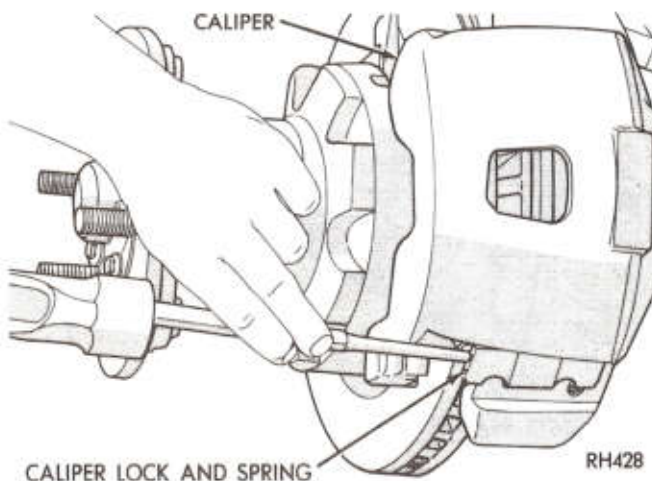
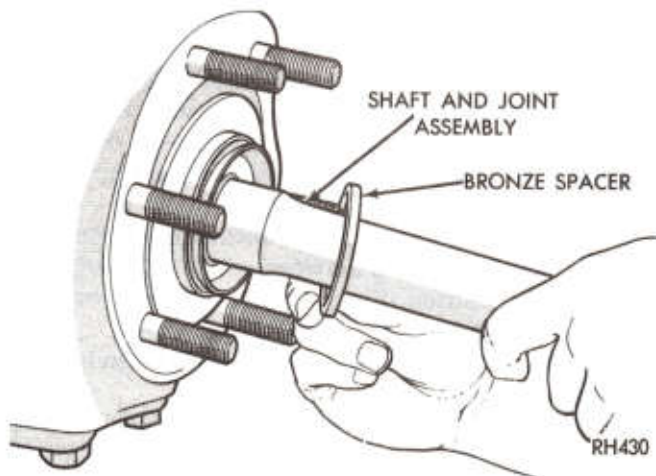
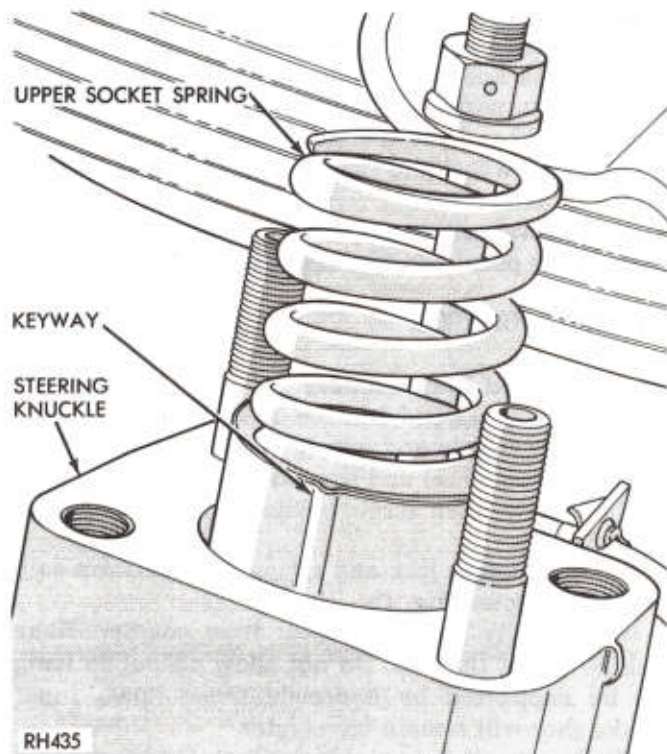

Fig. 5—Installing Caliper Lock and Spring
Fig. 7—Removing or Installing Shaft and Joint Assembly
Fig. 15—Proper Alignment of Keyway on Sleeve to Steering Knuckle
(17) Install new gasket on hub. Install drive flange, lockwashers and nuts. Tighten to 30 to 40 ft. lbs. Using Tool C-4020 install snap ring. Install hub cap, or install locking hub if so equipped. See Dualmatic hub—assembly.
(18) Carefully position caliper onto adapter. Position adapter lock and spring between caliper and adapter and tap into position (Fig. 5). Install allen screw and tighten to 12 to 18 ft. lbs. (16-24 N·m).
(19) Install wheel and tire assembly. Tighten nuts to 75 ft. lbs. (102 N·m).
(20) Lubricate at all fittings. Remove jack stands, lower vehicle, remove block from brake pedal and test vehicle operation.
(12) Remove spindle from knuckle. Slide inner and outer axle shaft complete with bronze spacer, seal and slinger from axle (Fig. 7).
(1) Slide axle shaft into position. Position bronze spacer on axle shaft with chamfer facing toward universal joint (Fig. 7).
(2) Install spindle, brake adapter and brake splash shield. Install washers and nuts and tighten to 50 to 70 ft. lbs. (68 to 95 N·m).
(3) Position inner brake shoe on adapter.
(4) Carefully install hub and rotor assembly onto spindle. Install outer bearing and inner lock nut. Using Tool DD-1241-JD and Tool C-3952-A, tighten to 50 ft. lbs. to seat bearings, back off lock nut and retighten to 30 to 40 ft. lbs. (88 N·m) while rotating hub and rotor. Back nut off 135° to 150°. Assemble lock ring and outer lock nut. Tighten lock nut to 65 ft. lbs. (88 N·m) minimum. Bend one tang of lock ring over inner lock nut and one tang of lock ring over outer lock nut. Final bearing end play to be .001 to .010 inch (.025 to .254mm).
(5) Install new gasket on hub. Install drive flange, lock washers and nuts. Tighten to 30 to 40 ft. lbs. (41 to 54 N·m). Using Tool C-4020 install snap ring. Install hub cap, or install locking hub if so equipped. See Dualmatic hub—assembly.
(6) Carefully position caliper onto adapter. Position adapter lock and spring between caliper and adapter and tap into position (Fig. 5). Install allen screw and tighten to 12 to 18 ft. lbs. (16 to 24 N·m).
(7) Install wheel and tire assembly. Tighten nuts to 75 ft. lbs. (102 N·m).
(8) Remove jack stands, lower vehicle, remove block from brake pedal and test vehicle operation.
(13) Remove cotter key and nut from tie rod. Using Tool C-3894-A, disconnect tie rod from steering knuckle. **Left side only.** Remove cotter key and nut from drag link. Using Tool C-4150, disconnect drag link from steering knuckle arm.
(14) Remove nuts and upper knuckle cap (left side steering knuckle arm). Discard gasket. Remove spring and upper socket sleeve.
(15) Remove capscrews from lower knuckle cap. Work cap free from knuckle and housing.
(16) To remove knuckle from housing, swing out at the bottom, then lift up and off upper socket pin.
(3) Using Tool D-192 and torque wrench Tool DD-994 install upper socket pin and tighten to 500 to 600 ft. lbs. (668 to 813 N·m). Install seal over socket pin.
(4) Position steering knuckle over socket pin. Fill lower socket cavity with **MOPAR** Multi-Mileage Lubricant Part Number 4318062 or equivalent. Work lower knuckle cap into place on knuckle and housing. Install capscrews and tighten to 70 to 90 ft. lbs. (95 to 122 N·m).
(5) Liberally lubricate upper socket pin with **MOPAR** Multi-Mileage Lubricant Part Number 4318062 or equivalent. Align upper socket sleeve in keyway of steering knuckle (Fig. 15) and slide into position.
(6) Install new gasket over upper steering knuckle studs. Position spring over sleeve. Install cap (left side steering knuckle arm). Install nuts and tighten to 70 to 90 ft. lbs. (95 to 122 N·m).
(8) Connect tie rod to steering knuckle and install nut. Tighten to 45 ft. lbs. (61 N·m). Install cotter key.
(9) Slide axle shaft into position. Position bronze spacer on axle shaft with chamfer facing toward universal joint (Fig. 7).
(10) Install spindle, brake adapter and brake splash shield. Install washers and nuts and tighten to 50 to 70 ft. lbs. (68 to 95 N·m).
(11) Position inner brake shoe on adapter.
(12) Carefully install hub and rotor assembly onto spindle. Install outer bearing and inner lock nut. Using Tool DD-1241-JD and Tool C-3952-A, tighten to 50 ft. lbs. (68 N·m) to seat bearings. Back off lock nut and retighten to 30 to 40 ft. lbs. (41 to 54 N·m) while rotating hub and rotor. Back nut off 135° to 150°. Assemble lock ring and outer lock nut. Tighten lock nut to 65 ft. lbs. (88 N·m) minimum. Bend one tang of lock ring over inner lock nut and one tang of lock ring over outer lock nut. Final bearing end play to be .001 to .010 inch (.025 to .254mm).
(13) Install new gasket on hub. Install drive flange, lockwashers and nuts. Tighten to 30 to 40 ft. lbs. (41 to 54 N·m). Using Tool C-4020 install snap ring. Install hub cap, or install locking hub if so equipped. See Dualmatic hub—assembly.
(14) Carefully position caliper onto adapter. Position adapter lock and spring between caliper and adapter and tap into position (Fig. 5). Install allen screw and tighten to 12 to 18 ft. lbs. (16 to 24 N·m).
(15) Install wheel and tire assembly. Tighten nuts to 75 ft. lbs. (102 N·m).
(16) Lubricate at all fittings. Remove jack stands, lower vehicle, remove block from brake pedal and test vehicle operation.